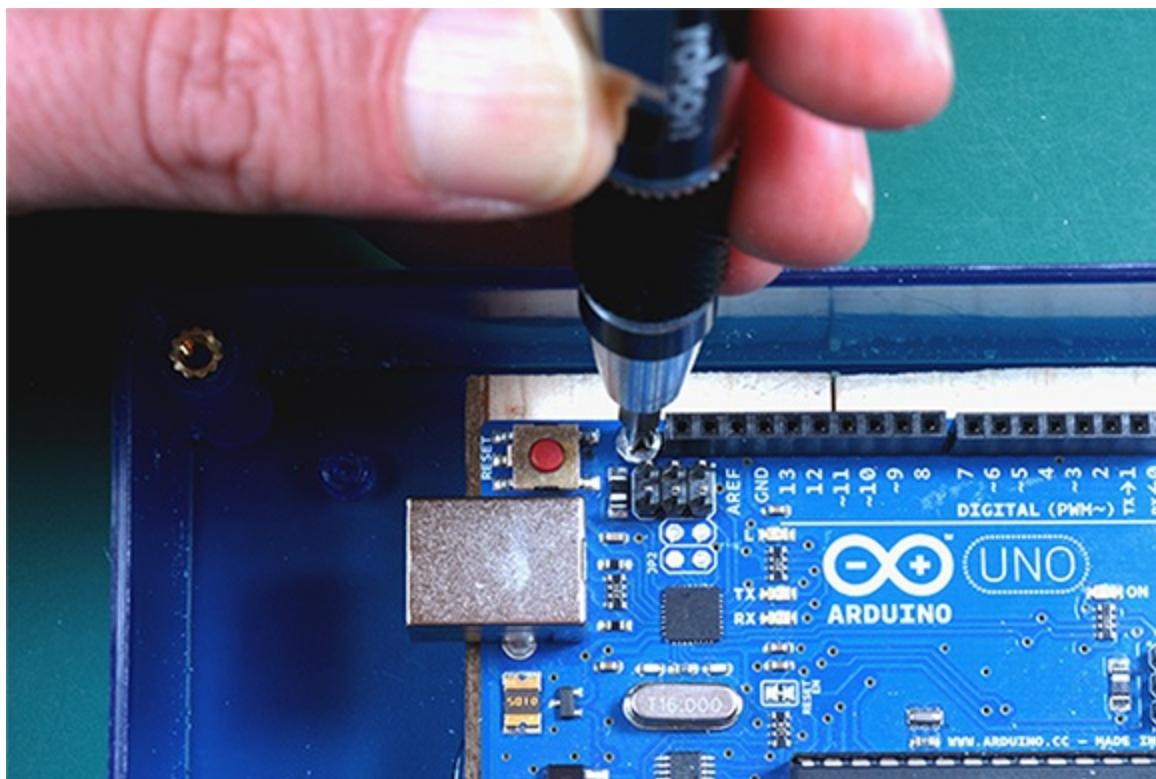
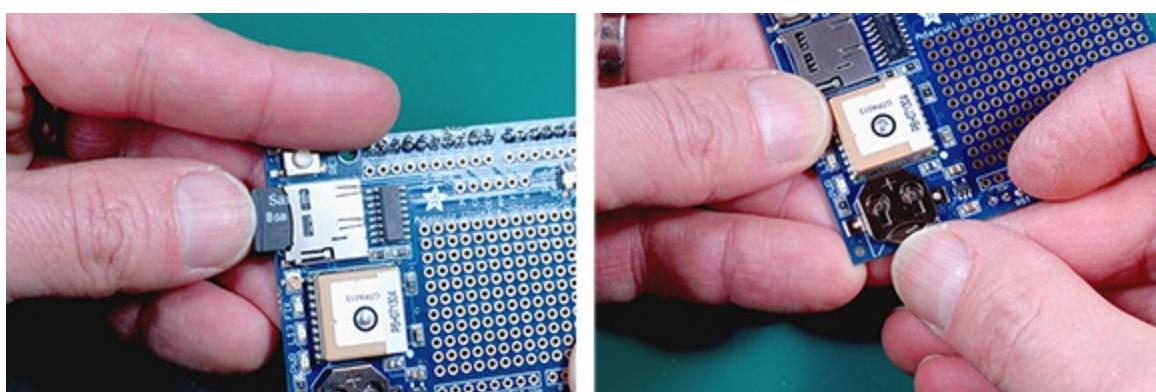

Figure 13-15: Soldering the power switch connections and installing your Arduino.
Figure 13-16: Installing your mini SD card and battery (after testing).
The power supply is simply your 9V battery connected to the switch. The positive lead is connected to one side of the rocker switch. The other side is connected to the Vin pin on your GPS shield, which is connected to your Arduino's power input pin (through a pin header on the shield). The negative lead goes straight to your ground pin. Do the following steps, as shown in Figures Figure 13-15 and Figure 13-16:
3. Separate your GPS shield from your Arduino and use three or four of your wood screws to secure your Arduino to the wood, as shown in Figure 13-15.
4. Insert your mini SD card into the shield, as in Figure 13-16.